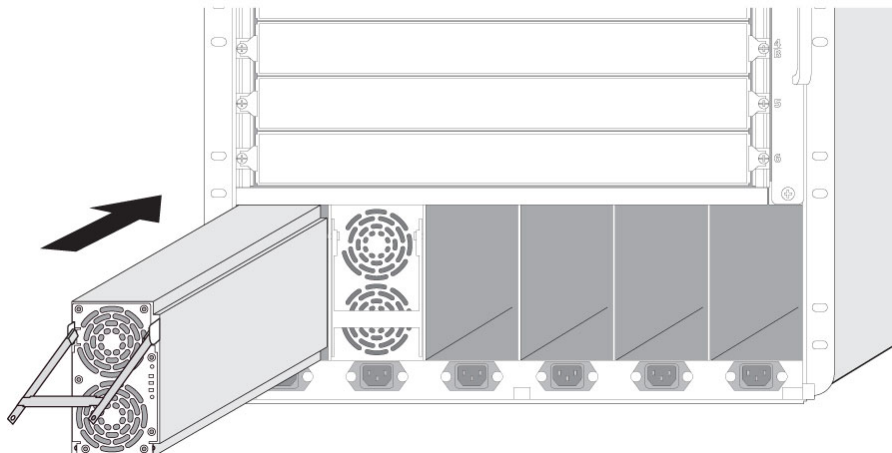

Figure 31. Inserting a PSU into the power supply bay
3. Carefully slide the PSU all the way into the power supply bay (see Figure 31, Inserting a PSU into the power supply bay).